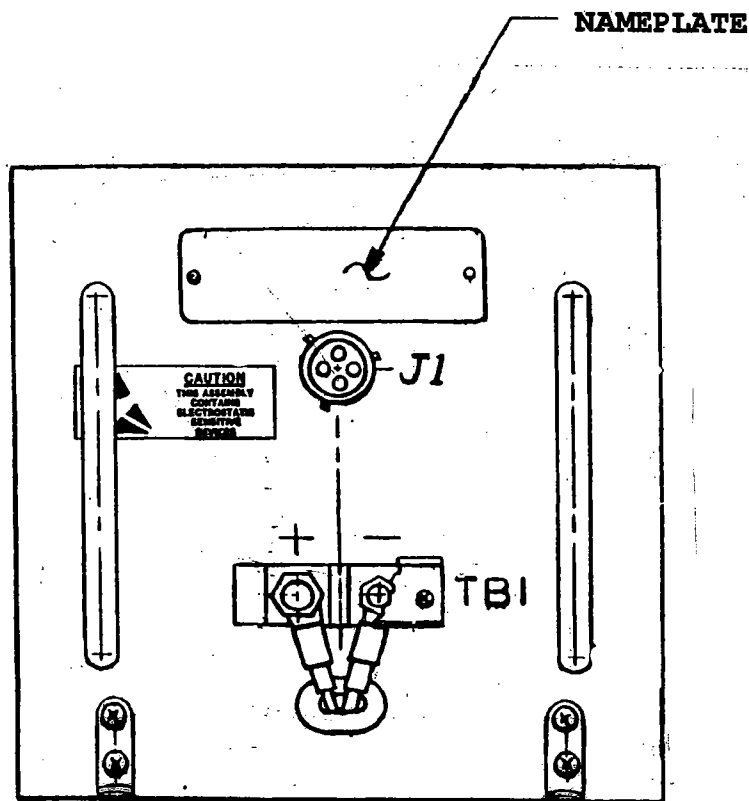

FIGURE 4
- 5.- Position new nameplate on front panel as shown in figure 4 and carefully secure with new rivets by tapping lightly with hammer.